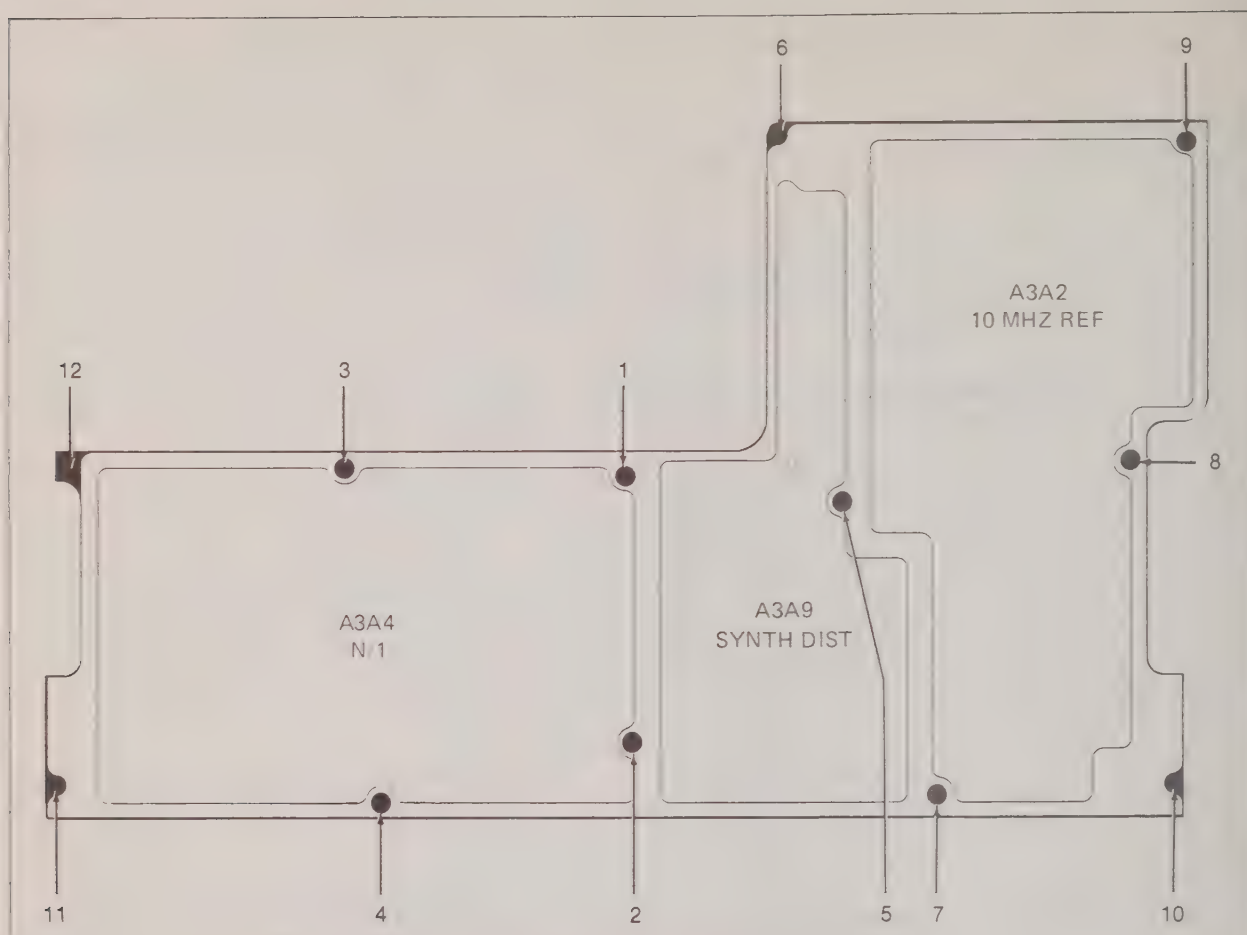

Figure 3-7. Torque Sequence, A3A2, A3A4, A3A9 Cover
3-21. The A3A2 10 MHz Reference PCB, the A3A4 N/I Divider PCB, and the A3A9 Synthesizer Distribution PCB access procedure consists of removing the top cover. After the top cover has been removed, the cover screws must be torqued back in place to insure specified RF integrity. Figure 3-7 illustrates the sequence in which the screws must be torqued.
- a. Torque all the screws to 3 inch-pounds in the numerical sequence shown in Figure 3-7.
- b. Torque all the screws to 7 to 9 inch-pounds in the numerical sequence shown in Figure 3-7. The torque value should be the same for all screws.